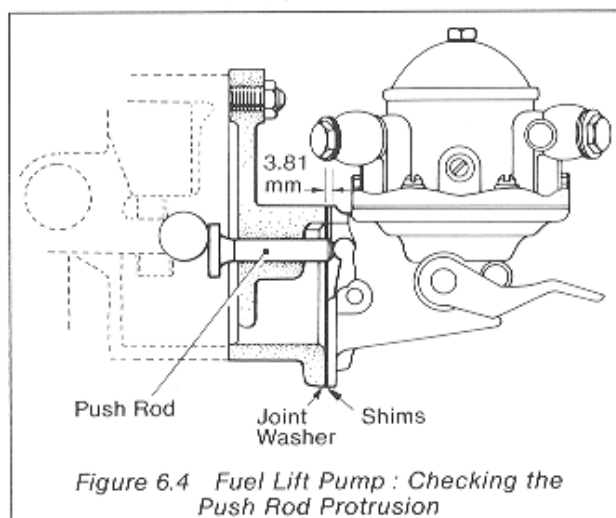

Figure 6.4 Fuel Lift Pump: Checking the Push Rod Protrusion
- (1) Turn the engine until the push rod is in the maximum lift position.
- (2) Fit the fuel lift pump joint.
- (3) With reference to Figure 6.4 measure the maximum protrusion of the push rod, this should be 3.81 mm (0.15 in.). If necessary adjust the protrusion by means of shims fitted under the mounting flange of the pump to achieve this figure. Shims (0.015 in. thick) can be obtained from Petters Limited Part No. 334143.